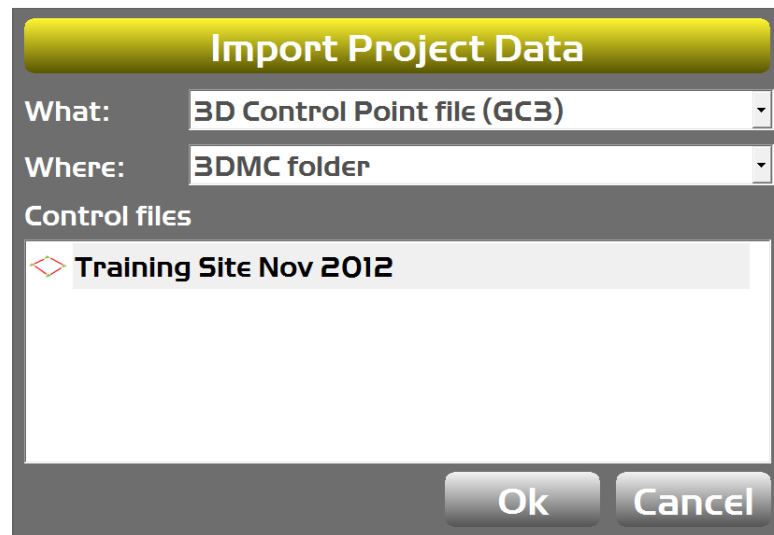

Figure 21: Import Project Data
4. Select the file type from and location from the **What** and **Where** from the drop-down lists (Figure 21).
5. Select the file to import from **Control files**, and tap **OK** (Figure 21).